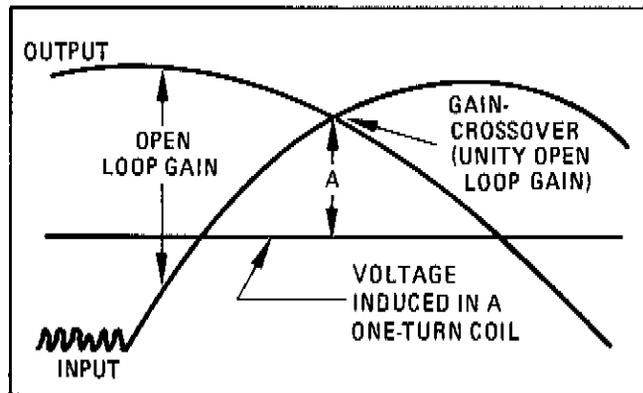

Figure 5-9. Spectrum Analyzer Display of Phase-Locked Loop Gain
6. Press the single sweep pushbutton. Check that the gain-crossover frequency is 20 ± 2 kHz. If the gain-crossover frequency is not correct, A3A9A4R20 must be changed to set the correct frequency. Refer to Figure 5-9.